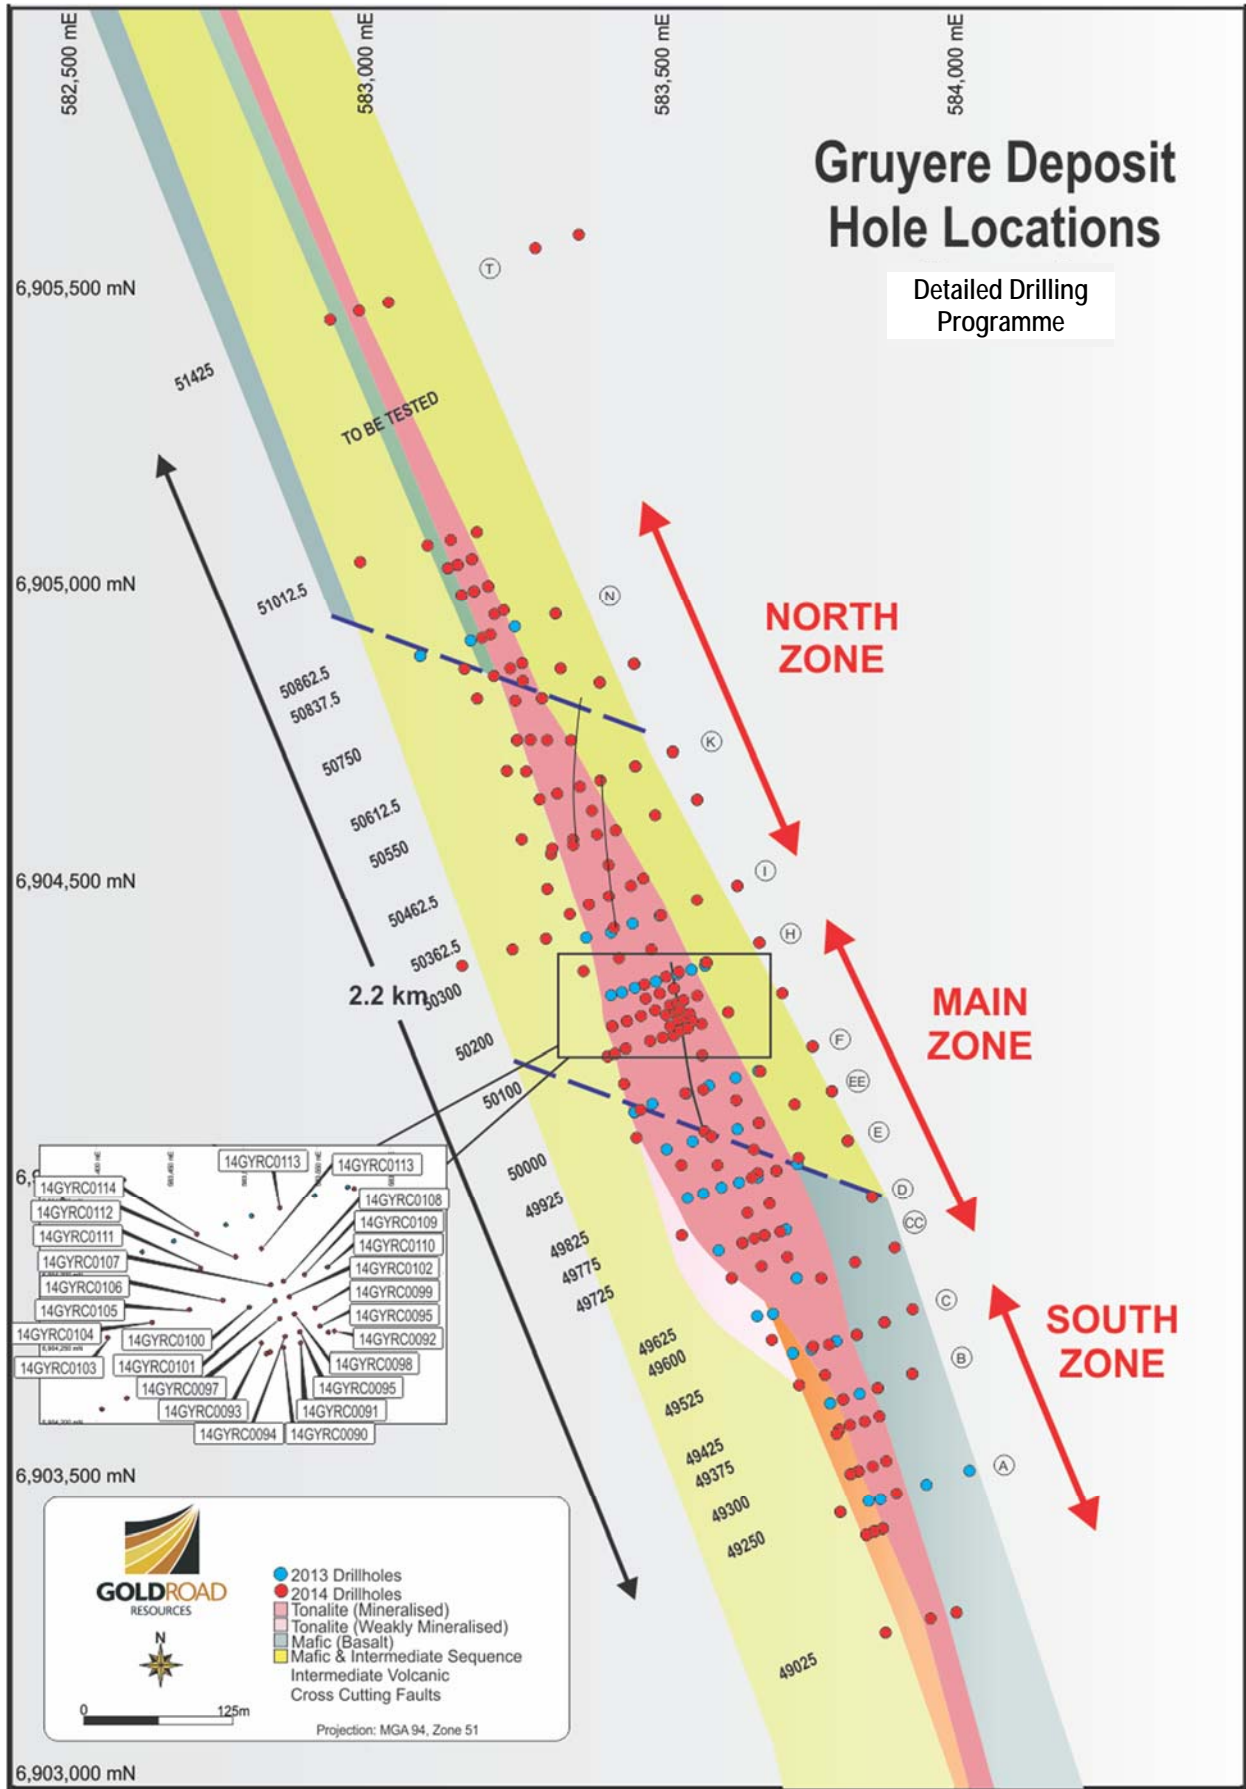

Figure 2: Gruyere plan projection illustrating interpreted geology and location of recent drilling in Detailed Drill Programme
2. a detailed programme of 26 close spaced RC holes designed to test short scale continuity of geology and grade (**Detailed Drilling Programme**) (Figure 2 – 2,780 metres); and